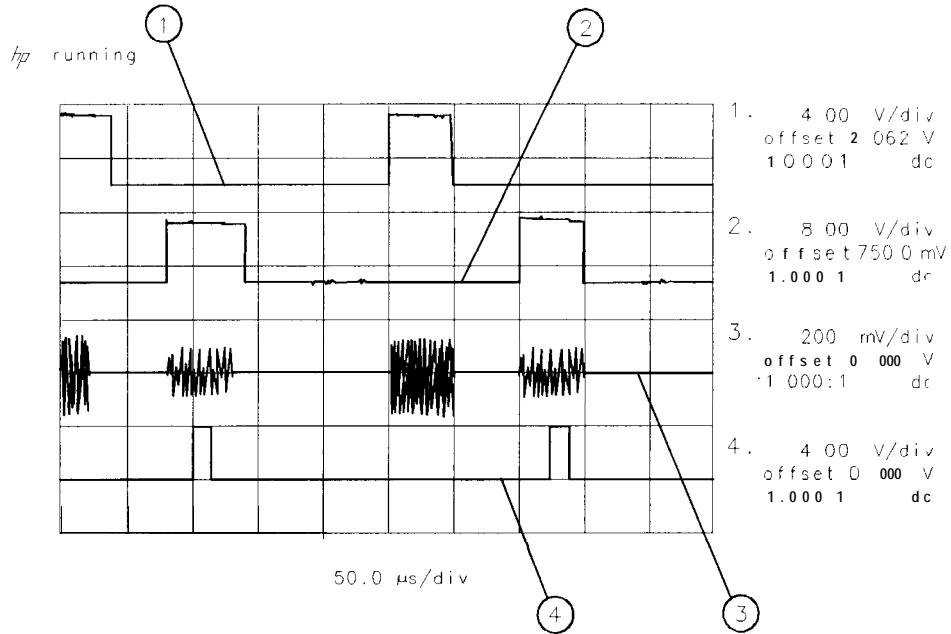

Figure 4-26. Placing the Gate Output During the Second Signal
9. To view the second signal, change the gate delay so that the gate output is under the second signal. Since the second signal had a signal delay of approximately $85 \mu\text{s}$, we set the gate delay to $85 \mu\text{s}$ plus the pulse width/2, or $110 \mu\text{s}$. Press SWEEP, Gate Control , GATE DELAY 110 μs to set the gate delay to $110 \mu\text{s}$. Using an oscilloscope can be helpful in placing the gate output during the pulsed signal (see Figure 4-26).
Item	Description of Items in Figure 4-26